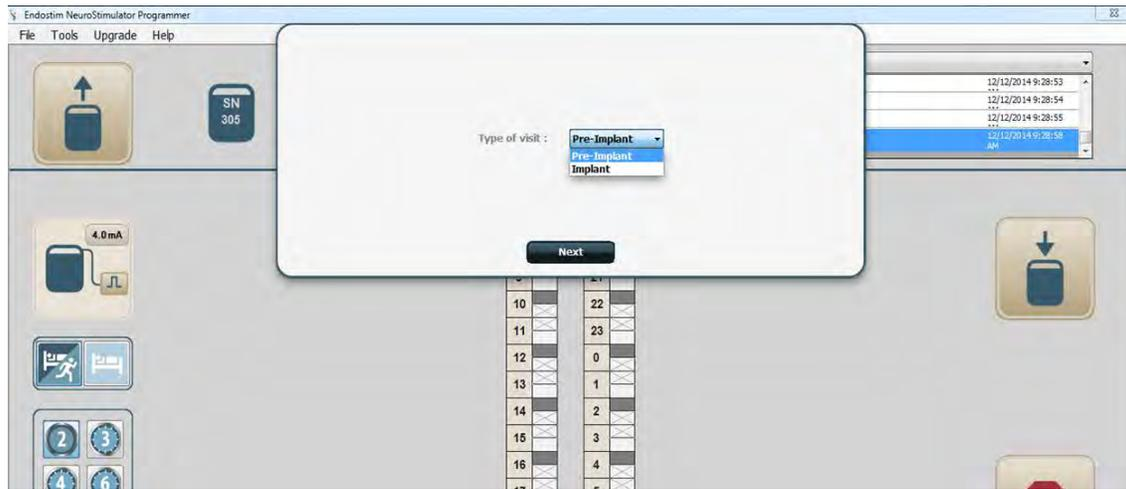

Figure 24 Visit Type Pop-Up Screen
– Visit type should be set to “Pre-implant” (See Figure 24 below.)